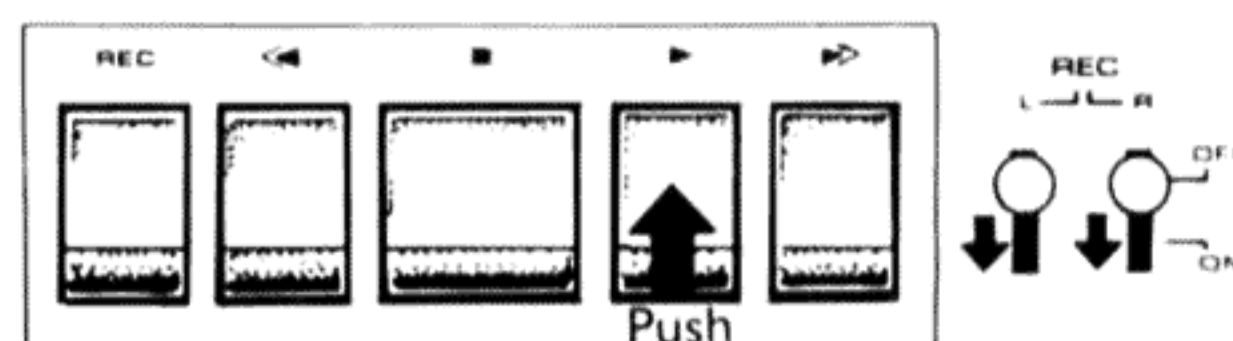

Fig. 38
1. Set the unit in playback mode by pushing the ► PLAY button. Set the REC switches at position ON (Fig. 38). Listen to the tape as in usual playback.